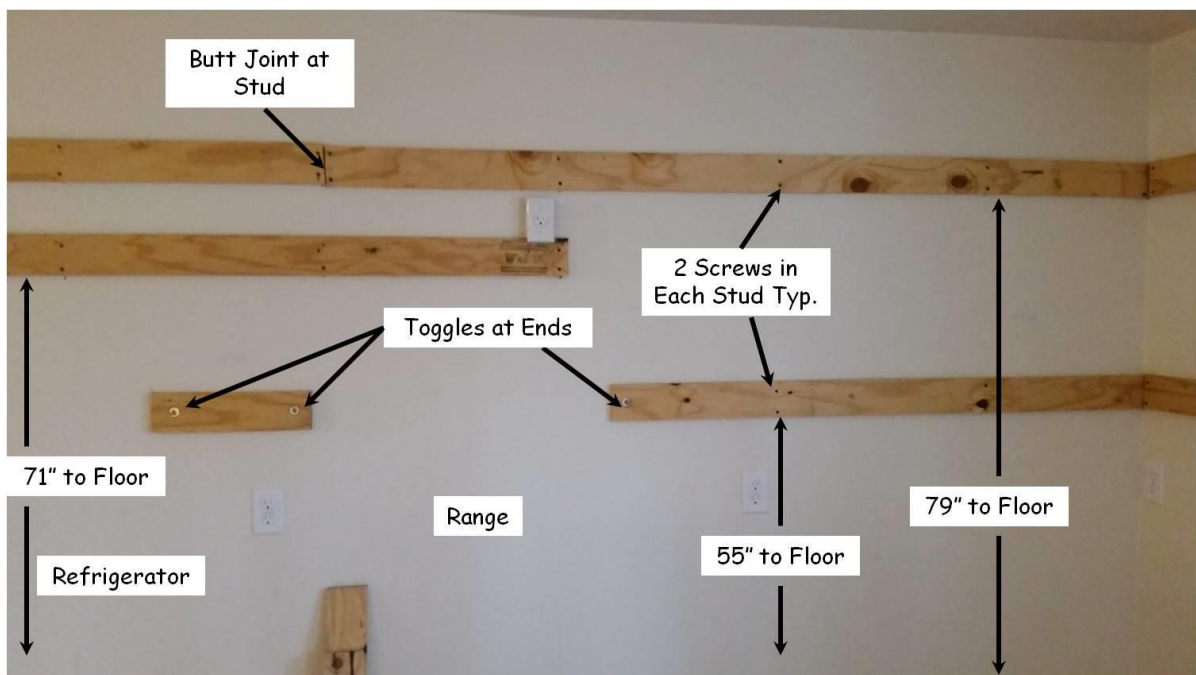

Figure 17-1. Kitchen Cabinet Support Strips.
4. The upper kitchen cabinets will be installed by mounting them to 3½” wide strips of ¾” thick plywood. This installation method is used because the screws holding up the cabinets go into the continuous plywood, rather than having to precisely locate the cabinet screws to hit a stud while holding them in place. The cabinets are 30” tall, with the top of the cabinet 84” and the bottom 54” from the floor. The top plywood support strip will be located about 1” down from the top, and the bottom of the lower strip about an inch up from the bottom of the cabinets. The following steps refer to Figure 17-1.